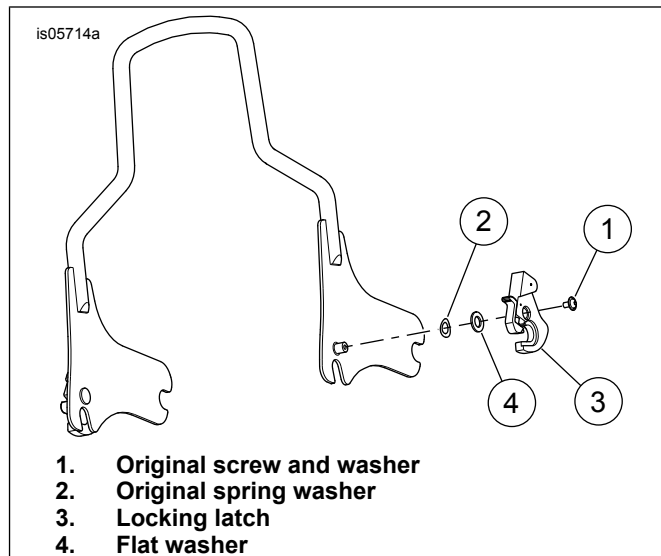

Figure 3. Outer Right Installation
Two-Up Tour-Pak Rack	See Figure 3, Outer Right Installation
Sissy Bar Upright Kit	See Figure 3, Outer Right Installation
Solo Luggage Rack Kit	See Figure 3, Outer Right Installation
2. See Figure 3. Install original spring washer (2) on mounting hub.